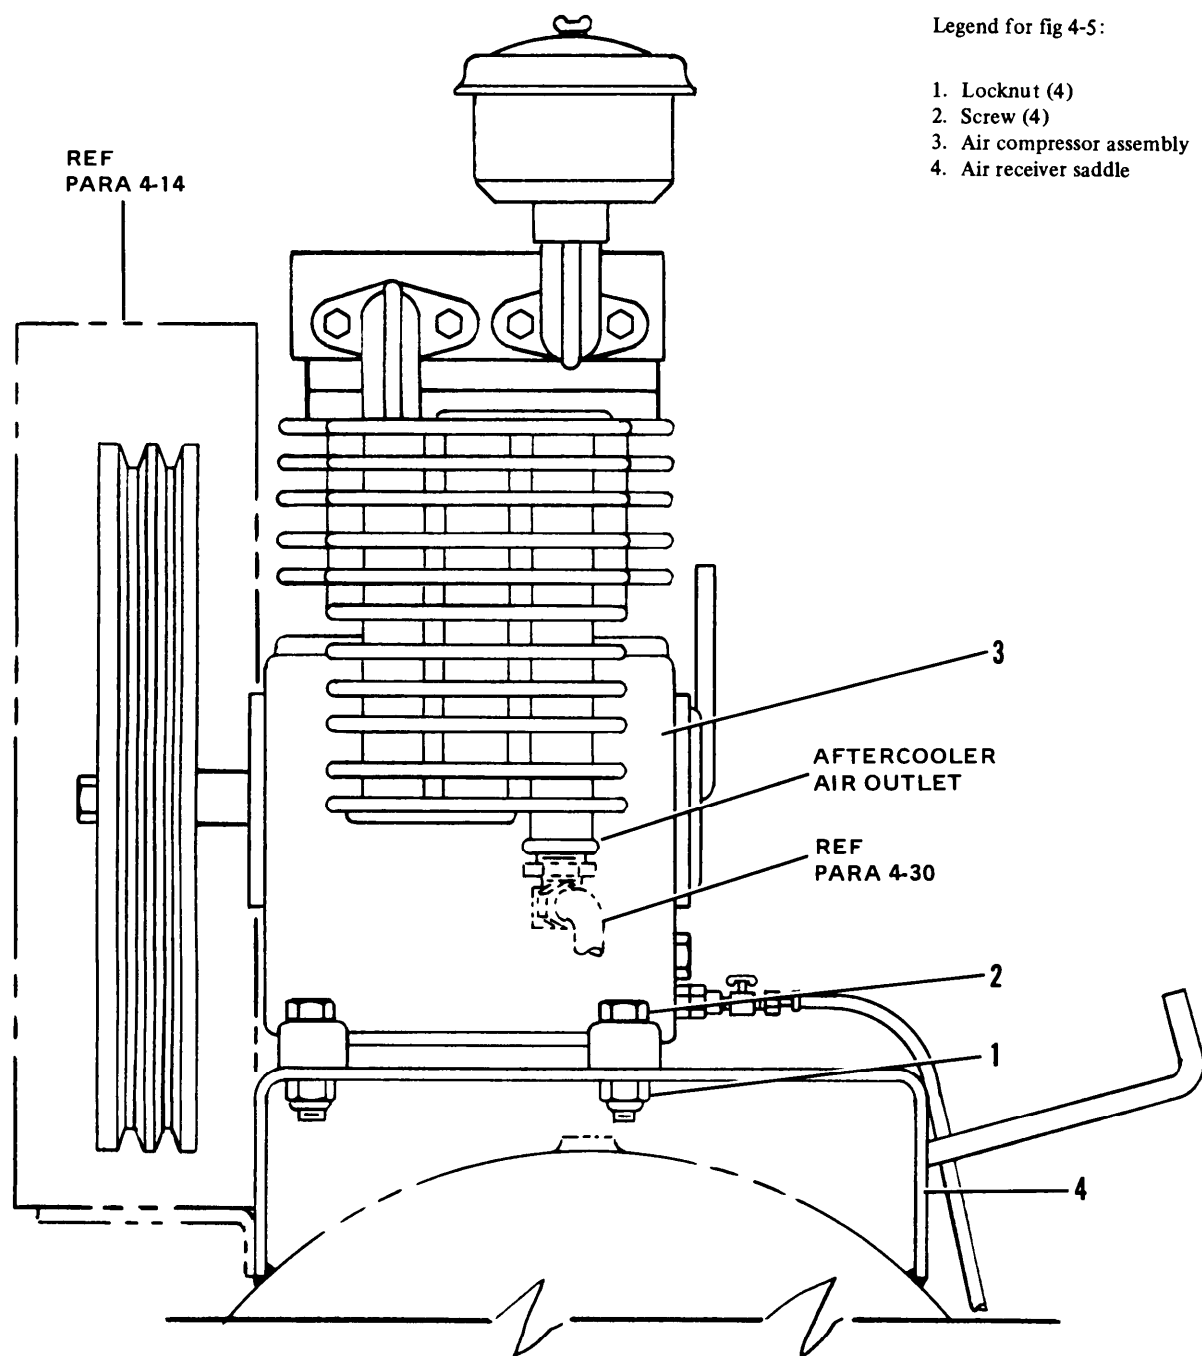

Figure 4-5. Air compressor assembly, removal and installation
(1) Unscrew and remove the four locknuts (1, fig 4-5) and screws (2) attaching air compressor assembly (3) to the air receiver saddle (4).
(2) Use a suitable sling and lifting device to remove air compressor assembly (3) from unit and place on a work bench.
(1) Use suitable sling and lifting device to set air compressor assembly (3, fig 4-5) on air receiver saddle (4).
(2) Secure the assembly (3) to saddle (4) with four screws (2) and locknuts (1).